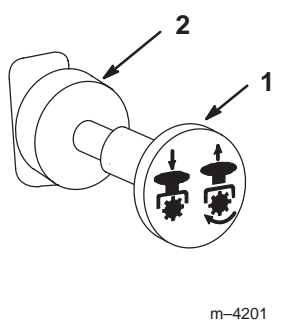

Figure 16
3. Move the PTO (power take off) switch to **off** (Fig. 16).